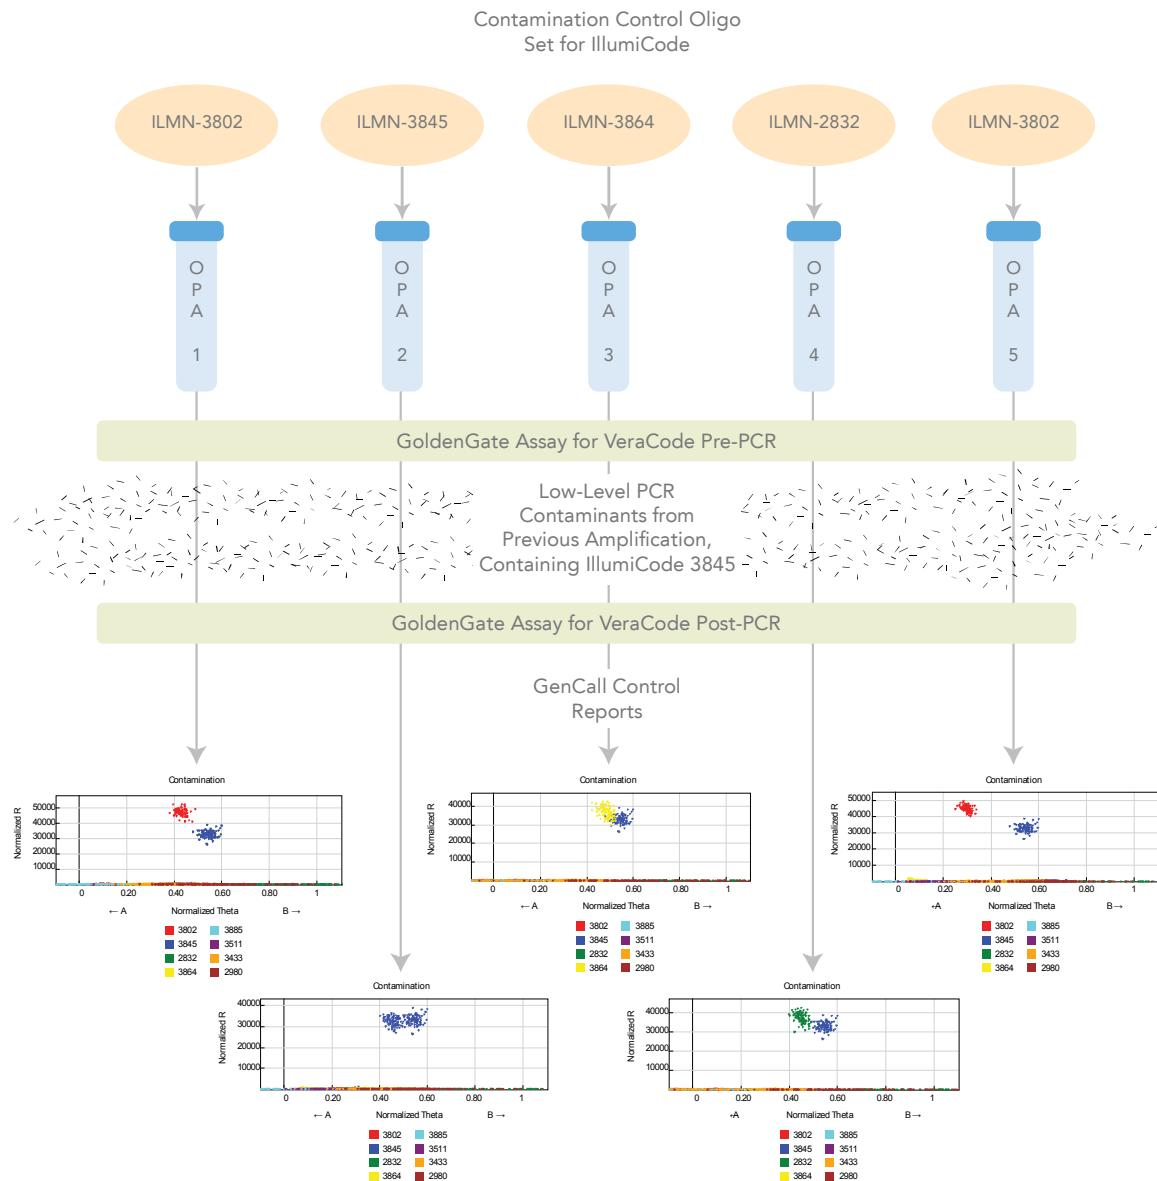

Figure 123 Contaminated Environment without UDG Treatment
- ▶ Figure 123 represents a contaminated environment *without* UDG treatment